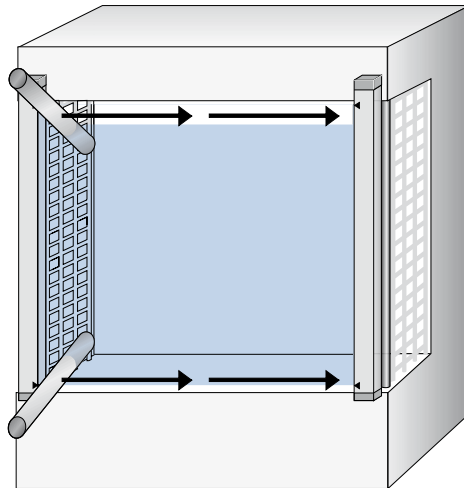

Figure 16: Test rod check: Step 2
3. Then, guide the test rod along the edges of the area to be protected as indicated by the arrow, see figure 16.